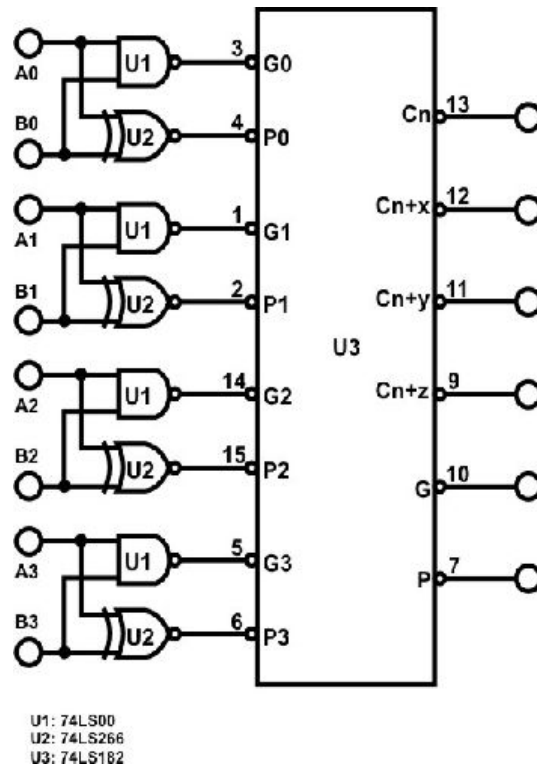

Figure 2.21: Carry generator circuit.
Connect input X0~X3 (addends), and Y0~Y3 (augends) to DIP switches DIP2.0~2.3 and DIP1.0~1.3 respectively as shown in Figure 2.21. Connect F1, F8,F9,F10 and F11 to L1~L5. Follow input sequences in Table 2.7 and set SW0 to “0”; record F1 and  $\Sigma$  in binary numbers.
- a) 74182 on block a KL-33003 is used to construct a carry generator circuit shown in Figure 2.21.